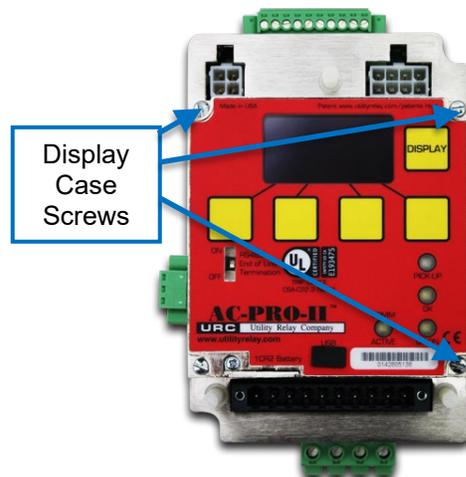

Figure 22.1: Display Case Screw locations
- Four (4) captive screws. See Figure 22.1
- Loosen the four (4) captive screws with a screwdriver.
- Tighten the four (4) captive screws.